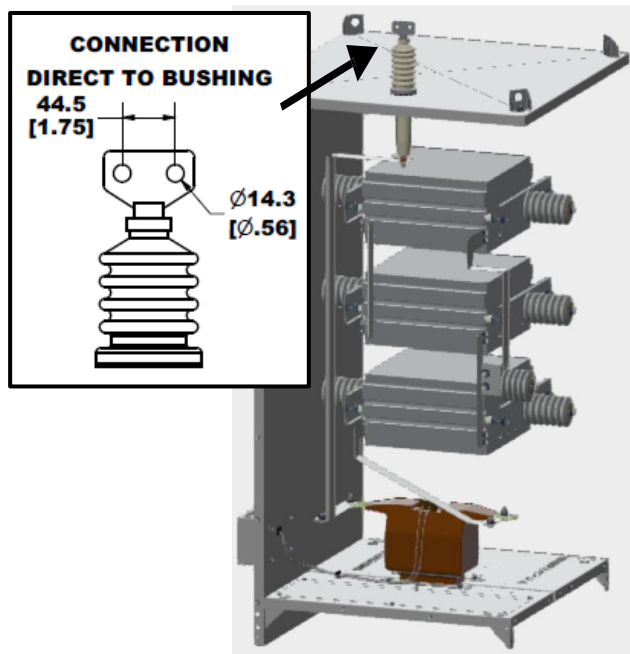
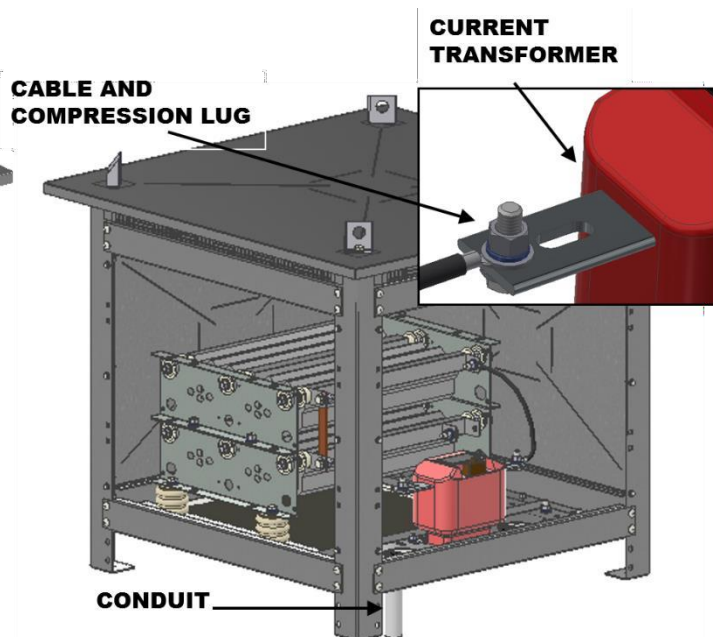

Figure 1: NEMA two-hole pad
Figure 4: Primary of current transformer
1. The connection is made directly to a top or side-mounted entrance bushing. The bushing has a NEMA two-hole pad-type connector. (See Figure 1.) Optional 4-hole pad-type are available.
- The connection is made directly to the primary terminal of the bar-type current transformer which is mounted inside the enclosure. This terminal will be tagged "NEUTRAL" and requires a customer-supplied lug and bolt. The other primary terminal of the current transformer has been factory wired to the resistive element. The neutral lead usually enters from the bottom through conduit. (See Figure 4.) Sometimes the current transformer is factory wired to a top-mounted entrance bushing, in which case the connection is the same as the first example above. (See Figure 1.)
1. The connection is made directly to top-mounted entrance bushings. The bushings have a NEMA two-hole pad-type connector. (See Figure 1)
The connection is made directly to a top-mounted exit bushing. The bushing has a NEMA two-hole pad-type connector. The bushing will be factory wired to the resistive element. (See Figure 1.)